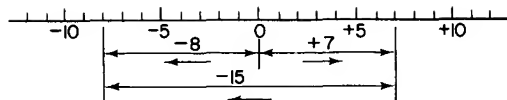

Fig. 1.17
2. To find the value of $+7-15$. Measure 7 units to the right of 0 to represent $+7$. From this point measure 15 units to left to represent -15 . The final position is 8 units to the left of 0 (Fig. 1.17). Thus,